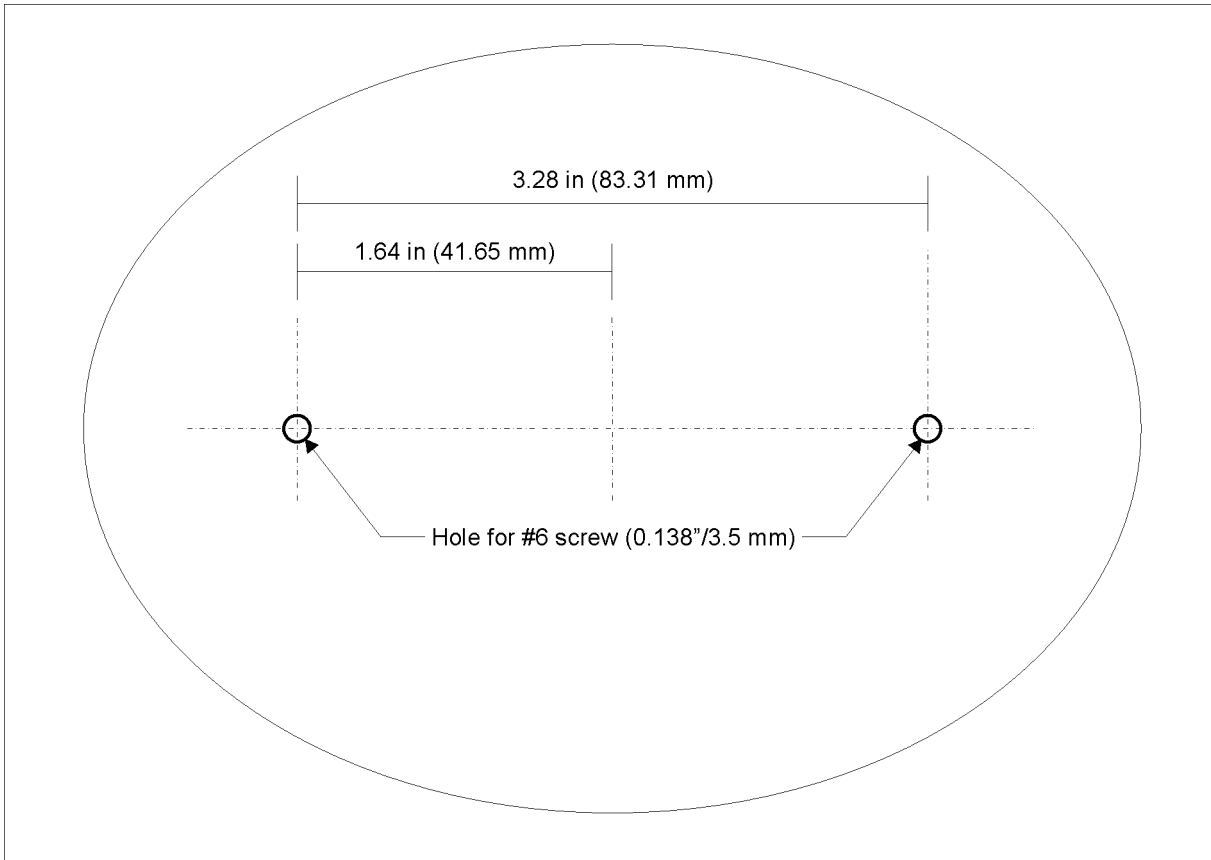

Figure 3-12: Receiver Mounting Template (Actual Size)
- 10** Permanently mount the receiver at the location confirmed in Step 7. If this is not a surface mount, install a single-gang electrical box, pass the cables through the box knockouts, and mount the receiver using two #6 screws. Refer to Figure 3-12 on page 3-24.